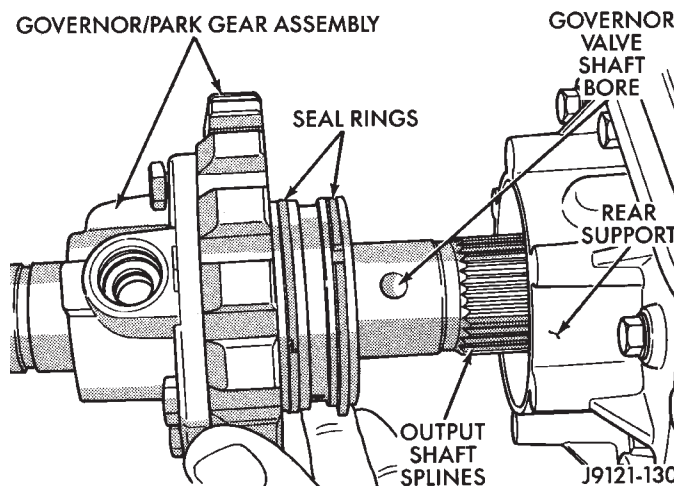

Fig. 33 Governor Body
- (12) Remove bolts holding governor body to park gear (Fig. 33).
- (13) Separate governor from park gear.
- (14) Pull park gear from rear support.
- (1) Install park gear into rear support so crown on curved boss is in line with hole through output shaft.
- (2) Install governor filter in park gear.
- (3) Slip governor body over output shaft and align port to filter.
- (4) Install bolts to hold governor body to park gear. Tighten bolts to 11 N·m (95 in. lbs.) torque (Fig. 33).
- (5) Install governor body-park gear snap rings and washer on output shaft as follows: